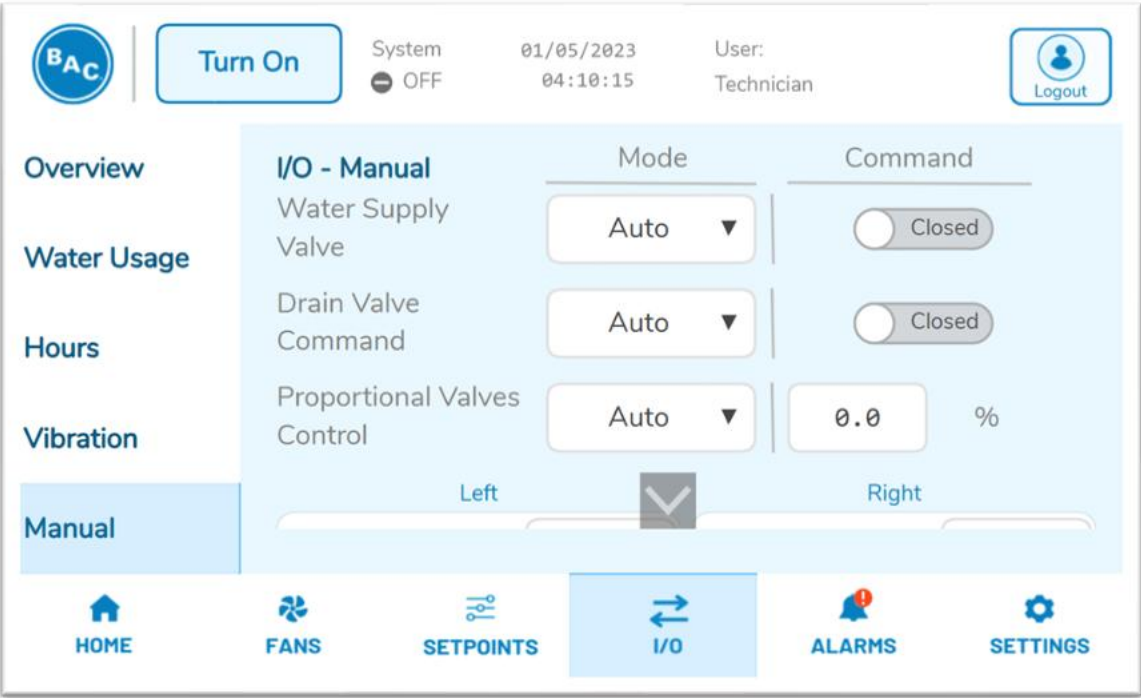
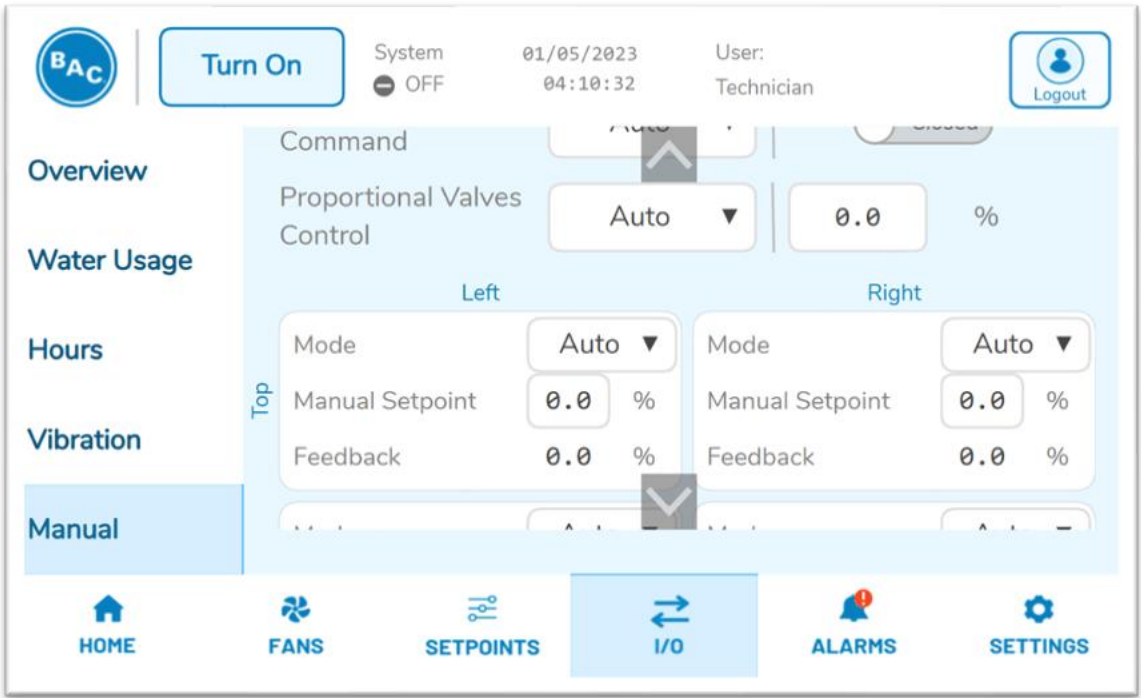

Figure 19. Manual Parameters
Figure 20. Manual Parameters (continued)
**Manual** – This tab in **Figure 19** and **Figure 20** is used to switch the various outputs of the PLC between “Manual”, “Off,” and “Auto” control. By default, all outputs are set to “Auto,” such that their operation is controlled by the PLC’s logic. Setting an output to “Manual” will command the output according its respective “Command” input on this page, where setting an output to “Off” will turn the output off (in terms of valves, “Off” generally means “Closed”).